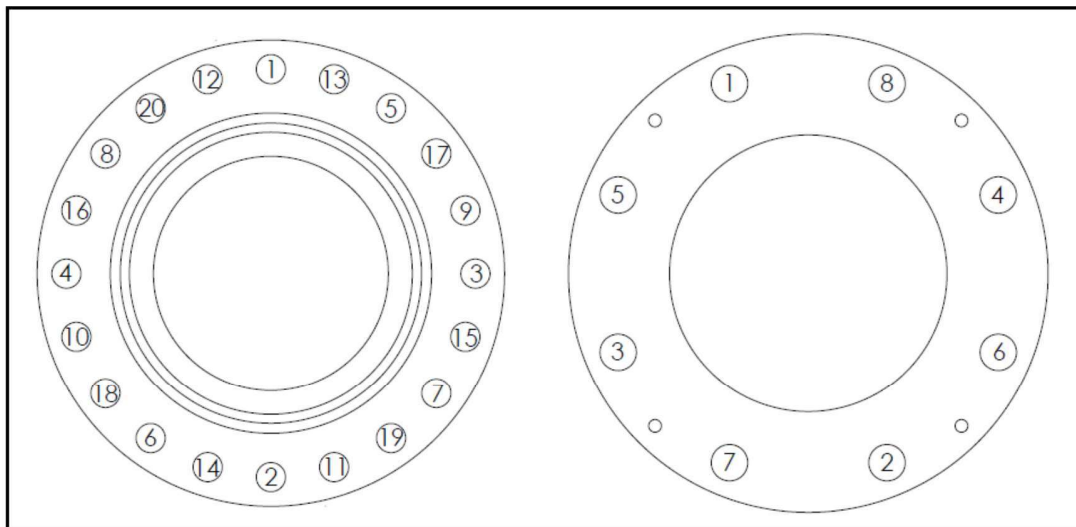

Figure 9: (12" 900# shown for reference)
7. Torque the SEAL STUDS uniformly as indicated below using the PLIDCO-supplied Torque Value. The best results are obtained by maintaining an equal gap between the middle and seal flanges while tightening the studs. Do not move to another stud until the required torque has been reached. The sequence for torquing the studs should follow the crisscross pattern as shown in Figure 9.
10. Torque the GRIP STUDS uniformly as indicated below using the PLIDCO-supplied Torque Value. The best results are obtained by maintaining an equal gap between the middle and grip flanges while tightening the studs. Do not move to another stud until the required torque has been reached. The sequence for torquing the studs should follow the crisscross pattern as shown in Figure 9.